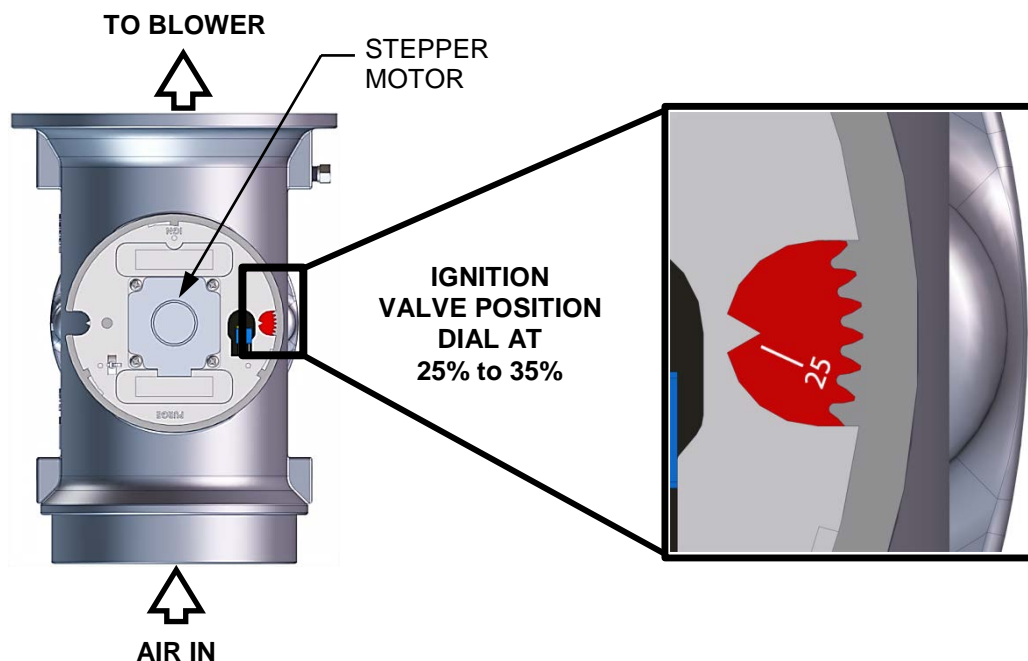

Figure 3-4: Air/Fuel Valve In Ignition Position
- a) The Air/Fuel Valve rotates to the low-fire (Ignition Position) position and closes the ignition switch. The Dial on the Air/Fuel Valve (Figure 3-4) will read between **25** and **35** to indicate that the valve is in the low fire position.